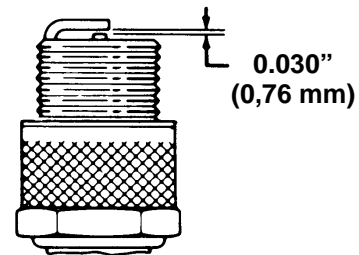

Figure 16
5. Set the air gap (Fig. 16) between the electrodes at .030 in. (.76 mm).